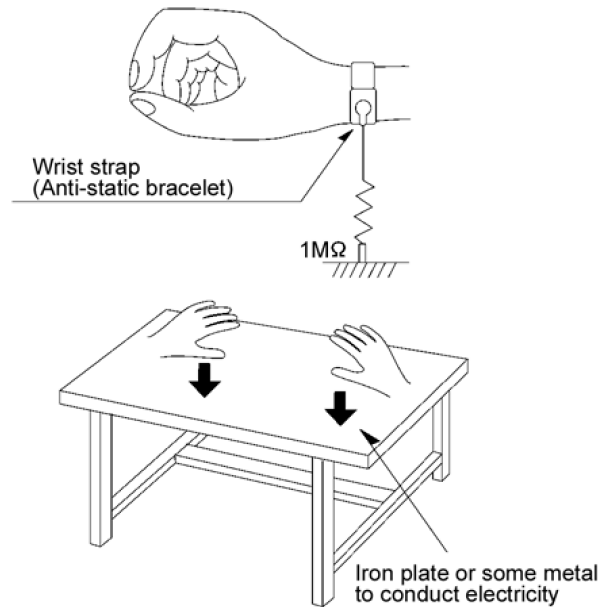

Fig 2
1. Human body grounding (Fig 2)
2. Work table grounding (Fig 2)